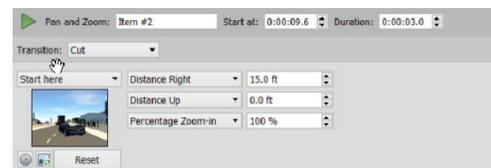

Figure 28
12. Ensure that the last keyframe is selected. In the keyframe settings, do the following, as shown in Figure 28